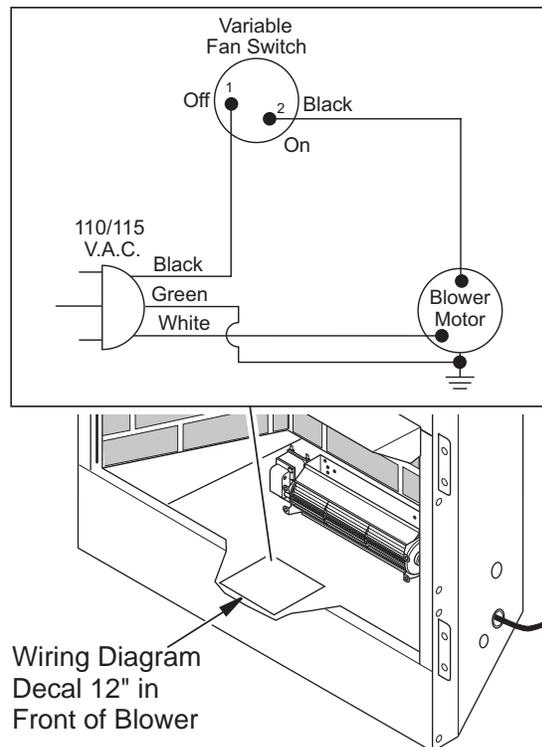

Figure 18 - Location of Wiring Diagram Decal (Model May Vary From Illustration)
9. Peel off backing paper and stick supplied wiring diagram decal on firebox bottom approximately 12" in front of blower (see **Figure 18**).
8. Peel off backing paper and stick supplied wiring diagram decal on firebox bottom approximately 12" in from of blower (see **Figure 18, Page 17**).